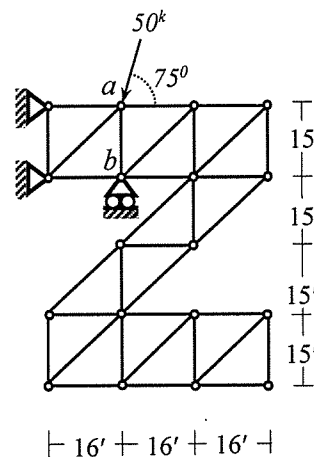

Fig.3
- Identify zero-force members of the truss loaded as shown in Fig.3. Determine the displacements of joints *a* and *b*.